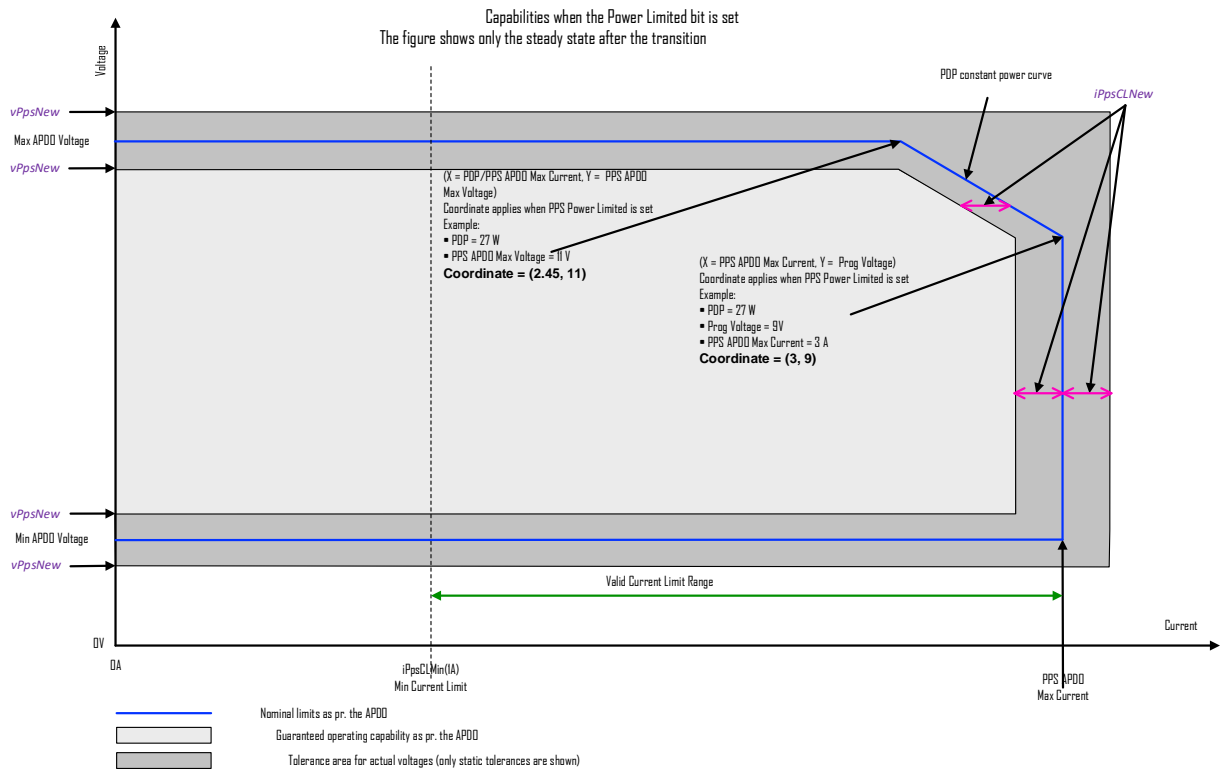

Figure 6 Voltage and Current Tolerances
**NOTE:** All measurements shall be within tolerances defined in the main specification and depicted in **Figure 6** Voltage and Current Tolerances